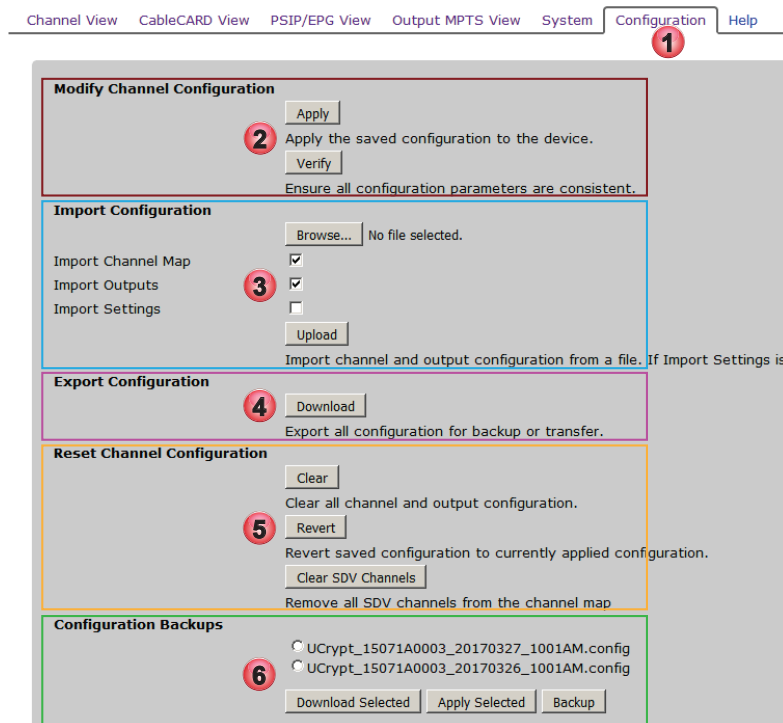

Figure 12-1: Configuration Tab
This page, Figure 12-1, is common to all Device models, and contains many global controls and utilities for manipulation of channel configurations.
1. Click the **Configuration** tab to find this page, Figure 12-1.